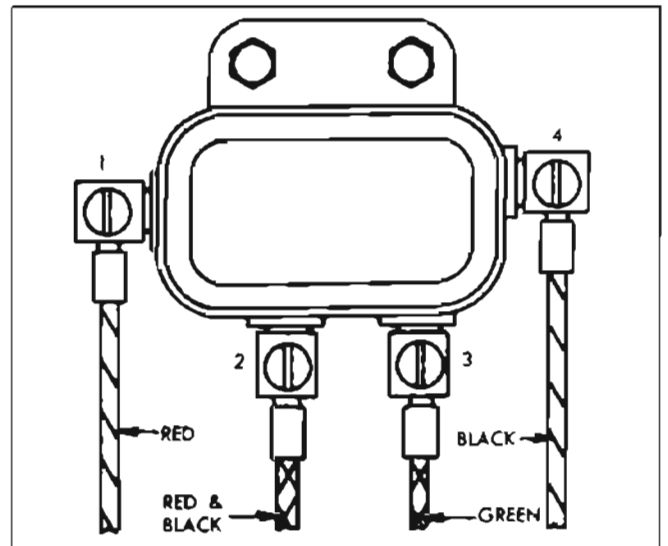

Figure 10-48—Solenoid Switch Relay Terminals and Wires
2. Set rheostat to provide full resistance then connect rheostat leads to relay terminals marked 1 and 4 in figure 10-48.
3. Connect voltmeter leads to relay terminals marked 3 and 4 in figure 10-48.
4. Connect a 6-volt battery and the 10 ohm rheostat in series between the relay terminals marked 3 and 4 in figure 10-48. Connect the low reading voltmeter between the same relay terminals.